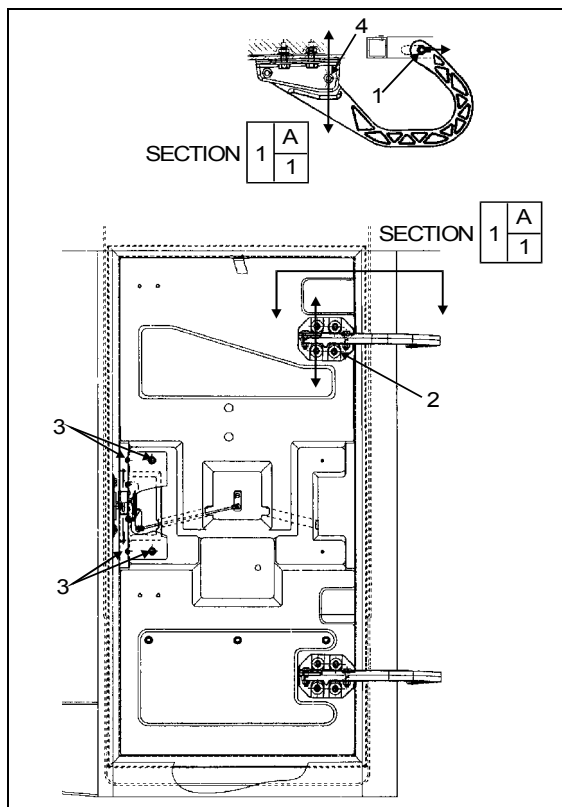

FIGURE 63: REAR ELECTRICAL COMP. DOOR 18199
1. Loosen nut (1, Fig. 63).
3. Tighten nut (1, Fig. 63).
4. Loosen nut (4, Fig. 63).
7. Loosen screws (2, Fig. 63). Screws allows the door to be shifted "UP or DOWN".